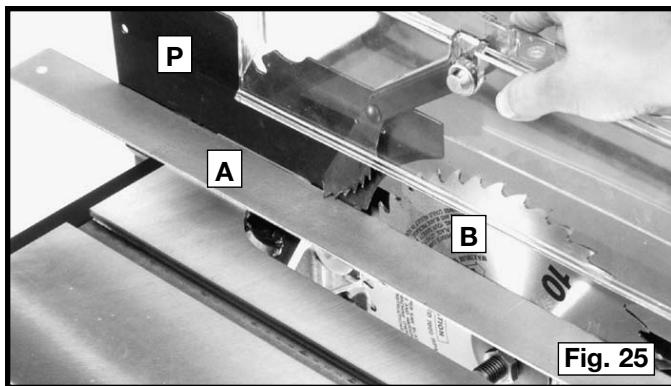
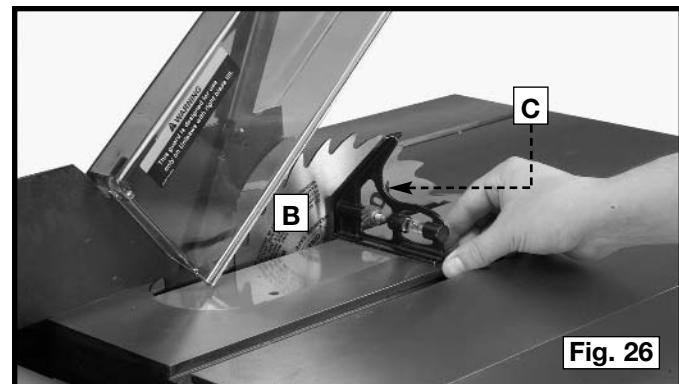
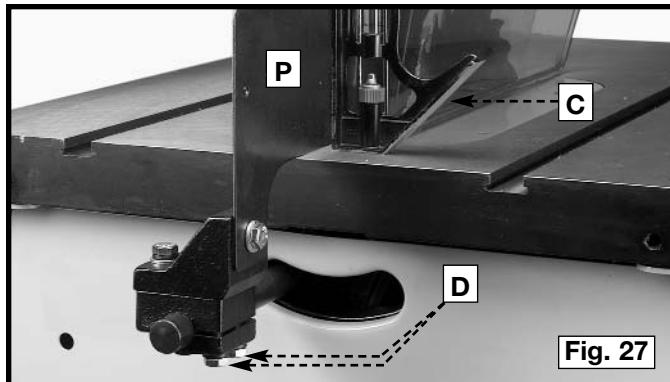

Fig. 25
Fig. 26
Fig. 27
12. Use a straight edge (A) Fig. 25 to make certain that the splitter (P) is aligned with the saw blade (B). Use a square (C) Figs. 27 and 28 to make certain that the saw blade (B) Fig. 26 and splitter (P) Fig. 27 are 90° to the table surface. Tighten all splitter mounting hardware (D) Fig. 27 and re-check the alignment.